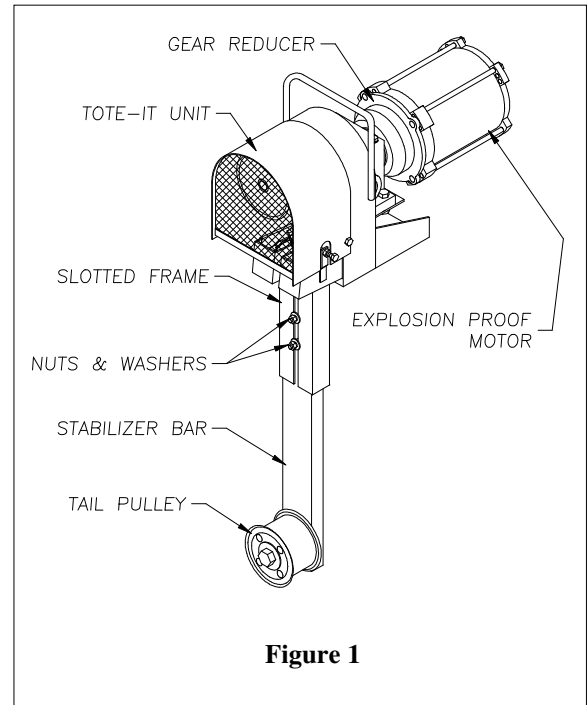

Figure 1
Step 2. Loosen nuts and washers on stabilizer bar. Slide stabilizer bar into the slotted frame on the bottom of the unit, making sure that the fasteners are on the outside of the slot. (See Fig. 1) Slide stabilizer bar as far up as possible. Lock bar temporarily in place by tightening top nut and washer assembly.